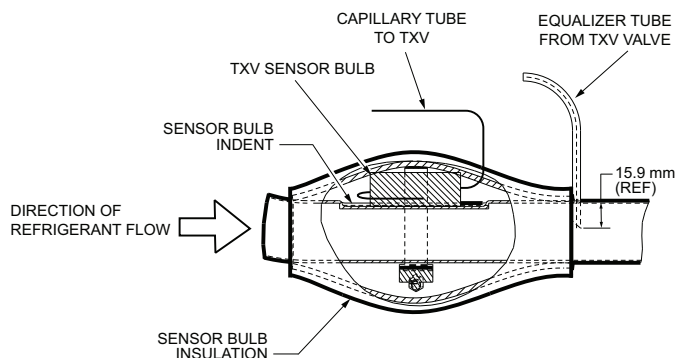

Fig. 21 — TXV Sensor Valve Insulation
10. Attach TXV bulb in the same location as the original (in the sensing bulb indent), wrap the bulb in protective insulation and secure using the supplied bulb clamp. See Fig. 21.